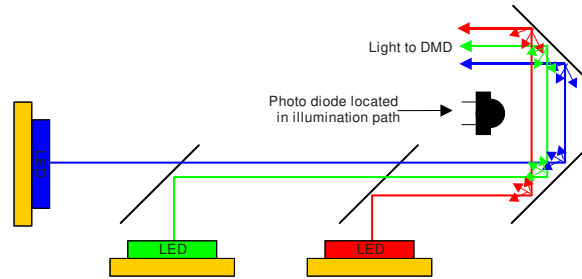

図 7-2. Photodiode Placement
- Ideally, a position in the illumination path (図 7-2) should be located that produces strong, but also balanced amplitude signal responses from each of the three LEDs at the system's target white point. Imbalance between the three channels due to non-ideal placement of the detector will limit dynamic range of the dimming system. The TIA supports an RGB trim function to help re-balance an imbalanced system. This feature is useful for completing the process of optimizing the balance of the amplitude signal responses from each LED. But it is still advisable to take care in the design of the illumination path such that the natural balance of the colors is as ideal as practical.